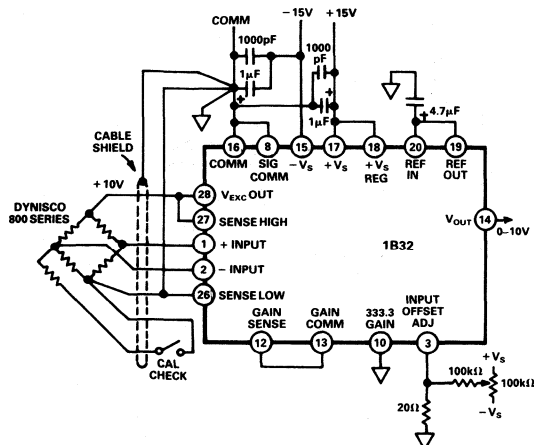

Figure 14. Pressure Transducer Interface
**Pressure Transducer Interface:** A strain gage type pressure transducer (Dynisco 800 series) is interfaced to a 1B32 in Figure 14. Regulated excitation of +10V dc is provided for a 30mV full-scale output for a 0-10,000 psi range of the transducer. A shunt calibration resistor is built into the transducer for easy verification of the 80% point of its full-scale output. A typical shielding scheme to preserve the excellent performance characteristics of the 1B32 is also shown. To avoid ground loops, signal return and cable shield should be grounded only at one point.